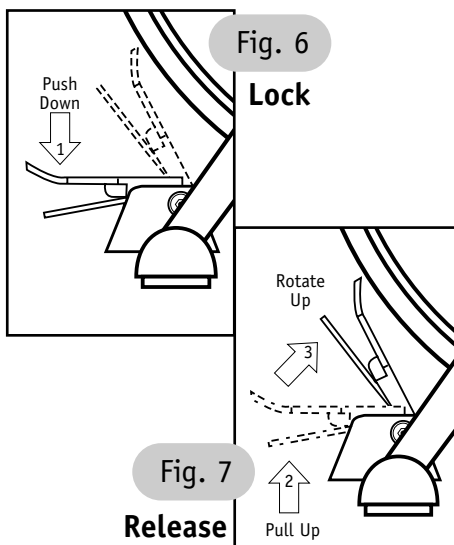

Fig. 6
4. Push the spring plate down as far as possible towards the floor to automatically engage the spring plate lock. The spring plate must be locked down to install the bicycle (Fig. 6).
1. Push the spring plate down as far as possible towards the floor to automatically engage the spring plate lock. The spring plate must be locked down to remove the bicycle (Fig. 6).